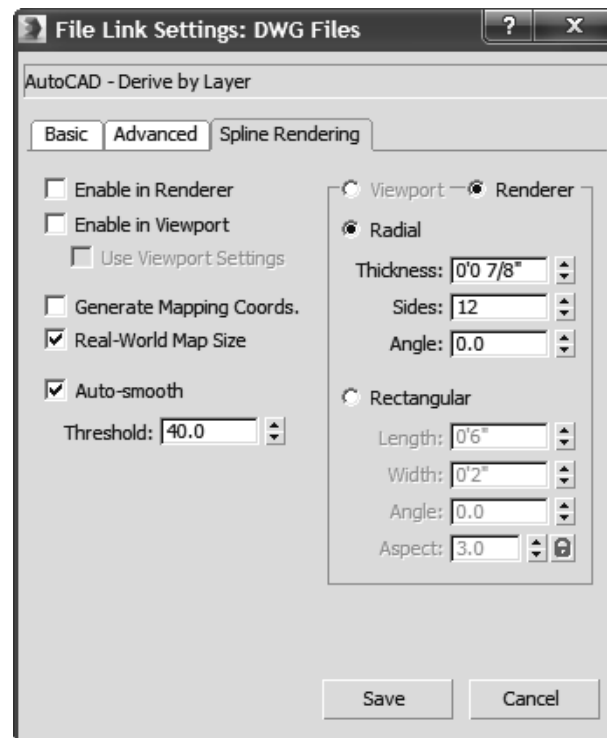

Figure 3-24
8. Select the *Spline Rendering* tab and verify that the link options are set as shown in Figure 3-24.